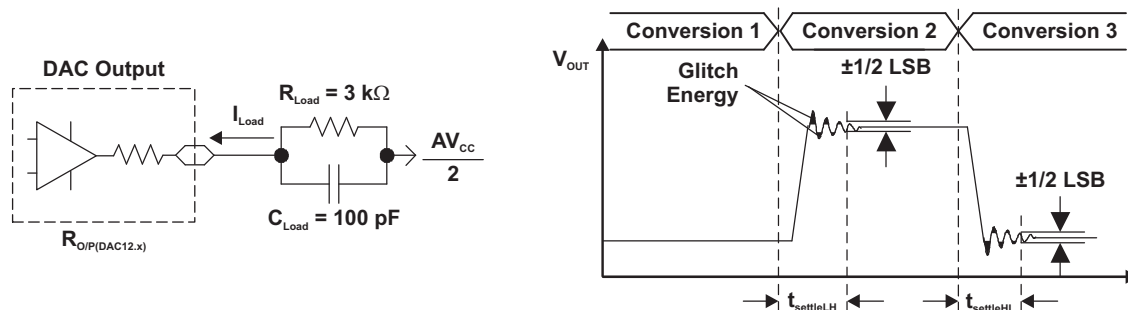
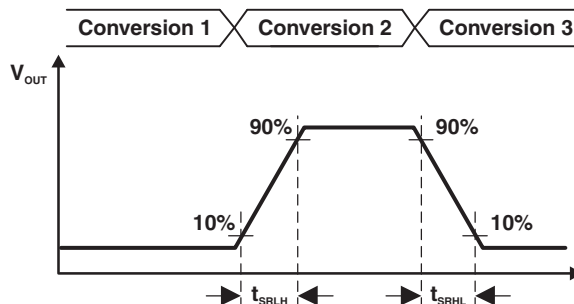

Figure 20. Settling Time and Glitch Energy Testing
Figure 21. Slew Rate Testing
V_{REF} = V_{CC}, DAC12IR = 1 (see Figure 20 and Figure 21), over recommended ranges of supply voltage and operating free-air temperature (unless otherwise noted)
- (1) R_{Load} and C_{Load} connected to AV_{SS} (not AV_{CC}/2) in Figure 20.
- (2) Slew rate applies to output voltage steps ≥ 200 mV.